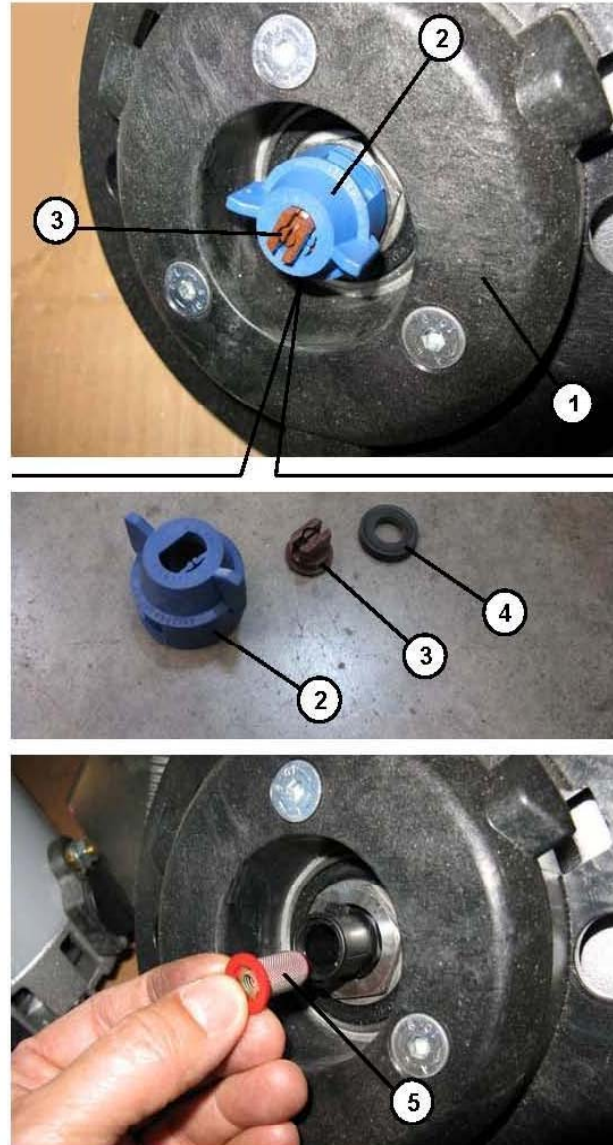

Figure 5-4
4. Locate the nozzle in the center of the brush hub (1, **Figure 5-4**) unscrew the nut (2) and retrieve the nozzle (3) and the seal (4).
5. Remove the filter from the housing (5).
6. Clean the nozzle (3) and the filter (5).
7. Correctly reposition the filter (5) in its housing.
8. Position the nozzle in the housing (3) and the seal (4), then screw the ring nut (2).